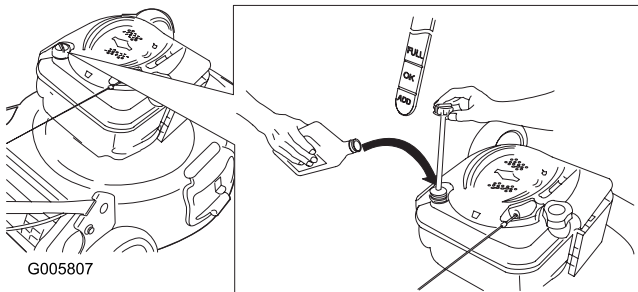

Figure 25
4. **Slowly** pour oil into the oil fill tube until the oil level reaches the **Full** line on the dipstick (Figure 25). **Do not overfill.** (Max. fill: 20 oz. (0.59 l), type: SAE 30W detergent oil with an API service classification of SF, SG, SH, SJ, SL, or higher.)
3. Attach a garden hose that is connected to a water supply to the washout port on the mower housing (Figure 25).